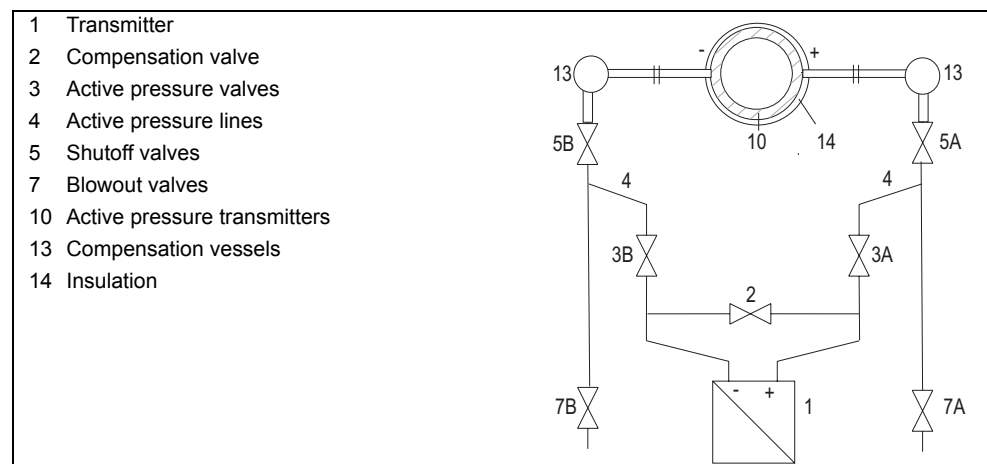

Figure 57 Measuring vapor
1. Open both shutoff valves Figure 57, pg. 101, 5 at the pressure taps.
2. Open the compensation valve (2).
3. Wait until the vapor in the active pressure lines (4) and in the compensation vessels (13) has condensed.
4. Open the active pressure valve (3A) and the vent valve at the high pressure chamber of the transmitter (1) slightly until air-free condensate emerges.
6. Open the vent valve at the low pressure chamber of the transmitter (1) slightly until air-free condensate emerges.
9. Close the vent valve at the low pressure chamber (1).